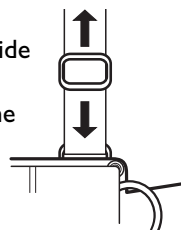

Figure 1
- Adjust the shoulder strap length by adjusting the height of the slide bars on the shoulder straps. See Figure 1. The top edges of the weight pocket assemblies are to be even with the top edge of the hipbone. Check to see that your weight pockets are in proper